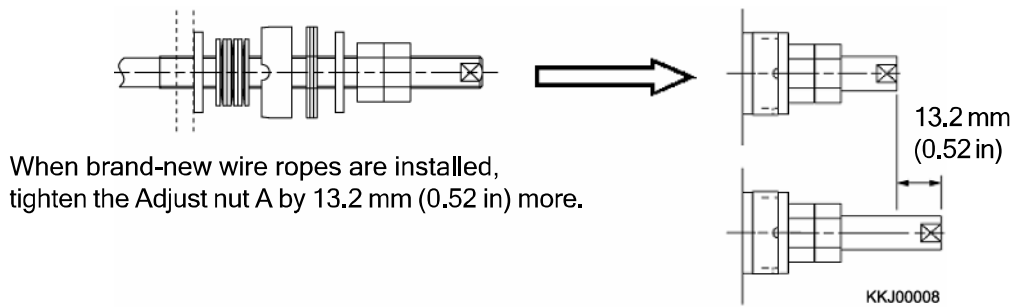

Fig. 2-27 Tighten the adjust nut
4) Tighten the Adjust nut A until the washers touch the collar as shown in the fig. 2-27.